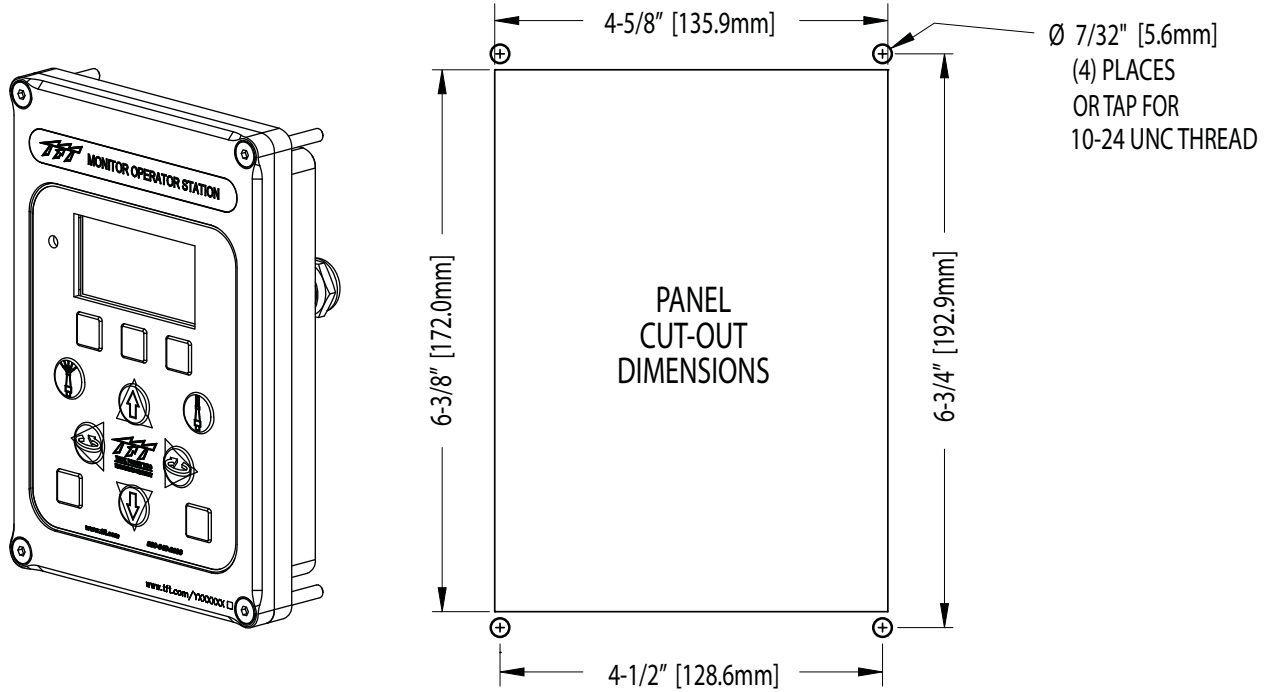

Figure 4.3.1
Select proper operator location. Panel space required will be 5" x 7-1/4" (127 x 185mm). A depth of 2" (50mm) will be required behind the panel. Refer to Figure 4.3.1 for cutout dimensions. Allow at least 6" of slack in cable for future repairs.
The storage bracket is supplied with (3) 1/4-20 stainless steel self-tapping screws. Make sure the material beneath the bracket is substantial and thick enough to hold self-tapping screws. Make sure the area on the backside of the mounting surface is clear of obstructions. We recommend a minimum thickness of 3/32" (.093" - 2.4 mm) in aluminum and 5/64 (.078"-2mm) in steel. See the chart in Figure 4.3.1 to determine the correct pilot hole size.